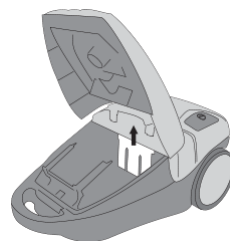

Figure 12 Removing the motor safety filter
- Remove the holder for the motor safety filter from the vacuum cleaner, see Figure 12.